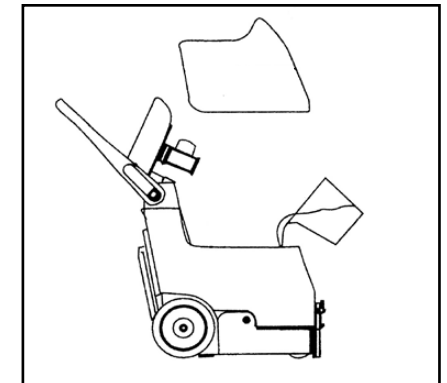

Figure 2
- Using a clean bucket, fill solution tank with 15L (4 gal) of hot water, 60°C (140°F) maximum (fig 2). Observe solution tank hose at rear of machine when filling. The hose indicates the amount of water in solution tank. Do not use recovery tank to fill machine. Use a clean bucket.